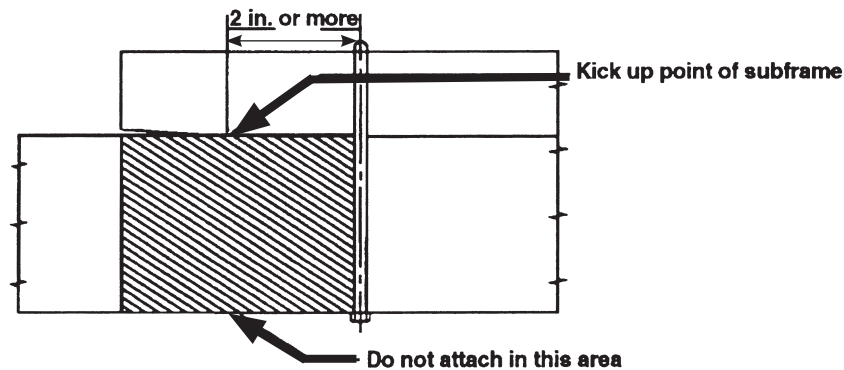

Figure 1
1. At the front end of the subframe. The attaching bolt or bracket must be at least 2 inches behind the kick up point of the subframe (Figure 1).